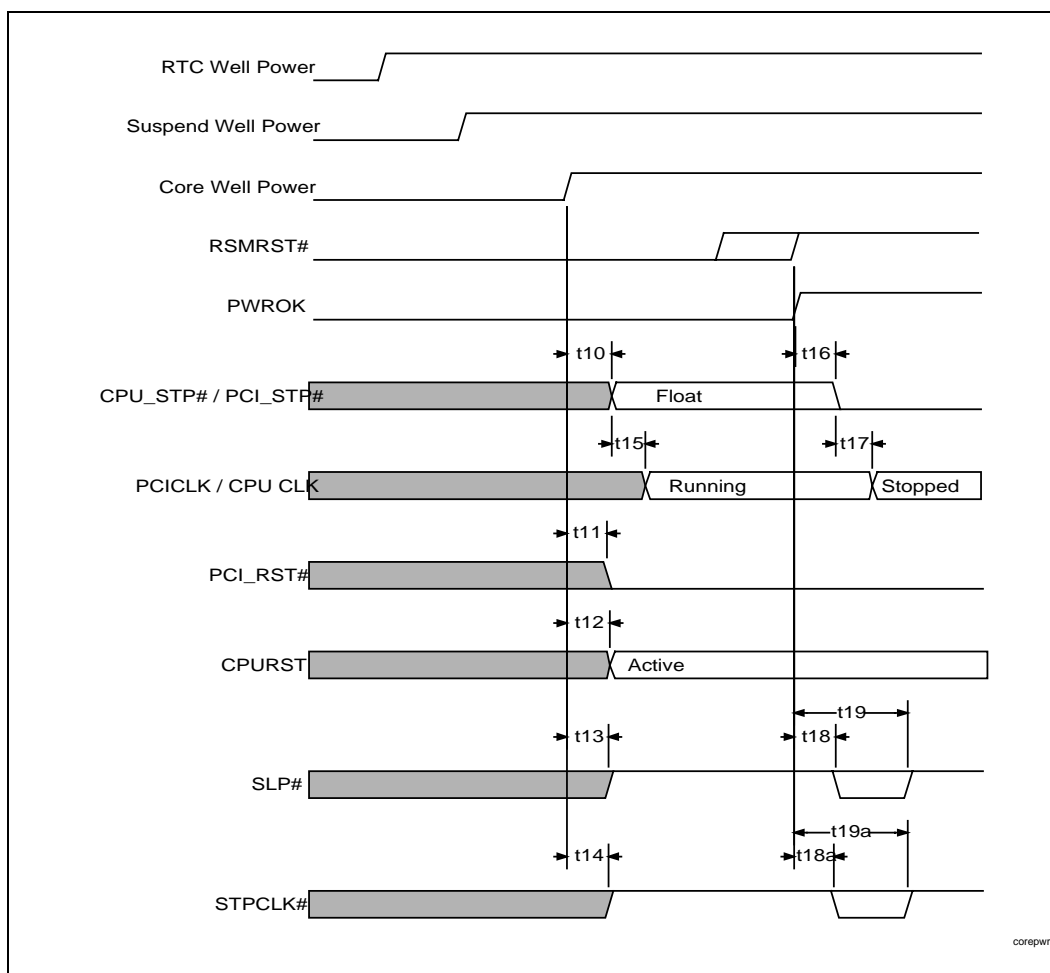
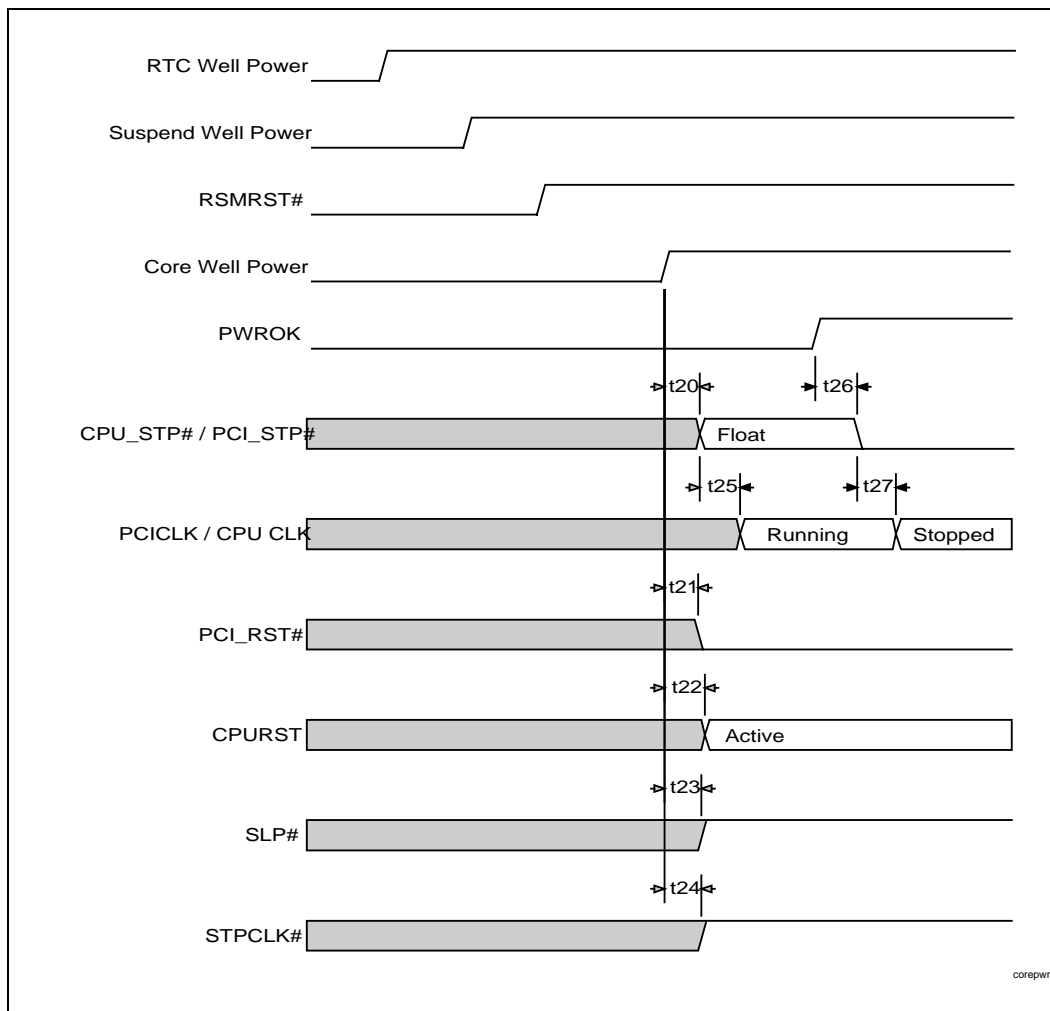
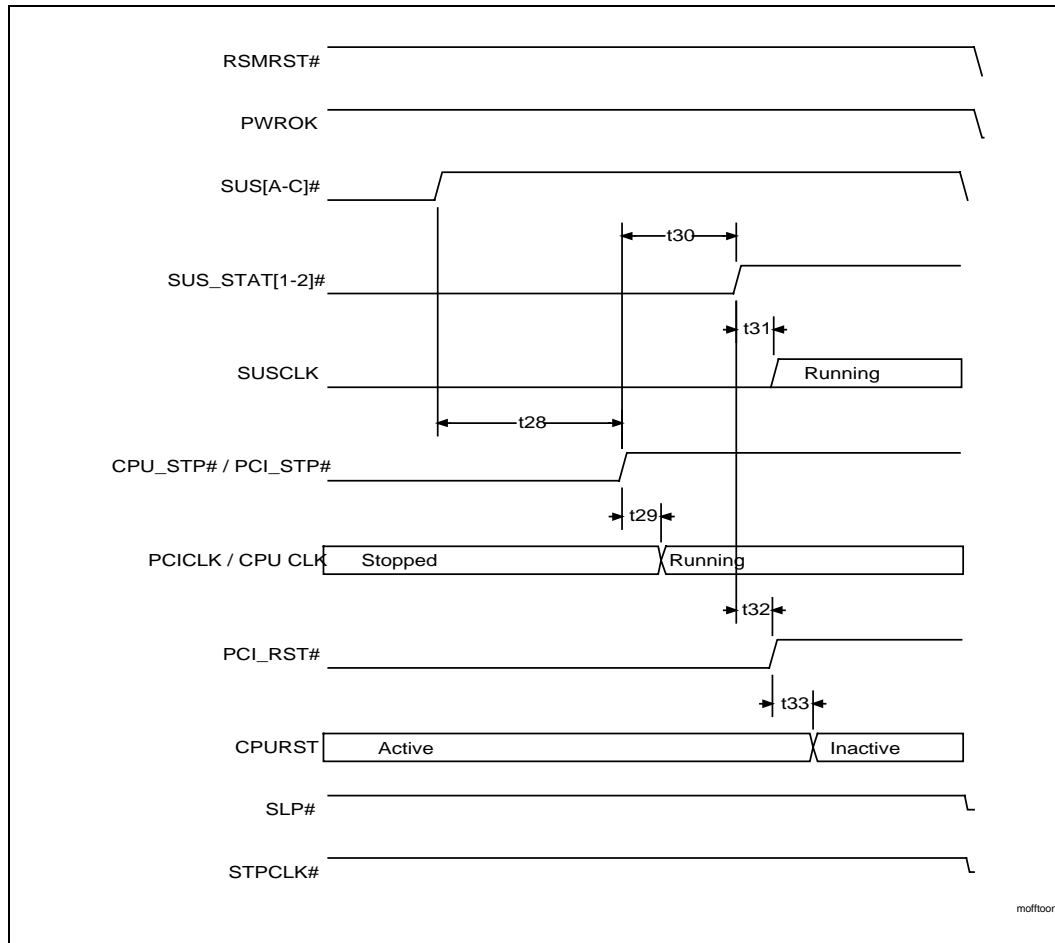

Figure 20. Core Well Power and PWROK Activated Signals (Core Well Power Applied Before RSMRST# Inactive)
Figure 21. Core Well Power and PWROK Activated Signals (RSMRST# Inactive Before Core Well Power Applied)
Figure 22. Mechanical Off to On
Figure 20 shows the timing relations for Power Management signals powered from the PIIX4E Core well. Here the power active status signals (RSMRST# and PWROK) transition after the application of all power to PIIX4E. It can be applied to situations where two or more of the PIIX4E power planes are connected together. It also shows timings when RSMRST# and PWROK are connected together.
2. There are no specific requirements for these timings related to PIIX4E. The system manufacturer should make sure that the clocks on power up meet any other system specifications. As a minimum, the clocks must be available and stable after time t30 shown in Figure 22.
Figure 21 shows the timing relations for Power Management signals powered from the PIIX4E Main Core well. Here the Suspend well power active status signals (RSMRST#) transition before the application of Core well power to PIIX4E.
Figure 22 shows the transition from a Mechanical Off condition to the On condition. The signal states begin at the final states shown in Figure 20 and Figure 21.